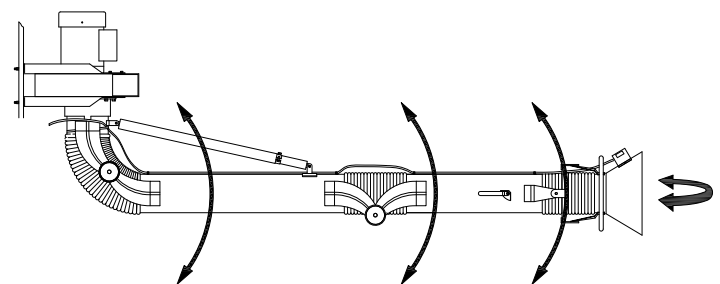

Fig. 7
1. Upon completion of installation, the SCA should appear similar to the system shown in Fig. 7.